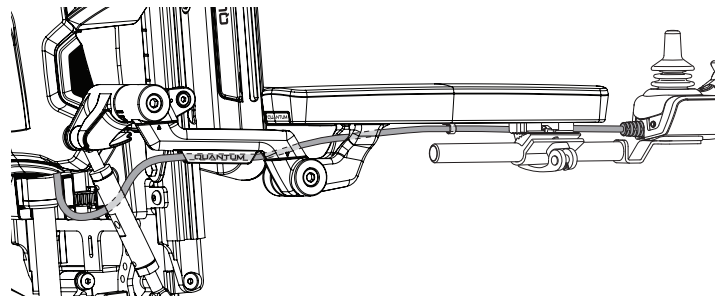

Figure 7. Controller Harness Routing on a TRU-Balance® 4
4. Install the controller and route the harness to the back of the power base. See figure 7, 8, 9, or 10.
6. Secure the controller harness to the armrest receiver with wire ties. See figure 7, 8, 9, or 10.